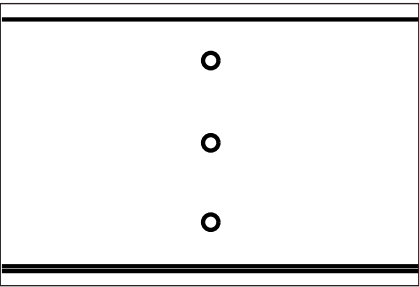

Figure 6: Drill Clearance Holes
5. Drill three 0.266" (~17/64") clearance holes through the front and rear walls of the tube at each marked stud location. Refer to **Figure 6**.